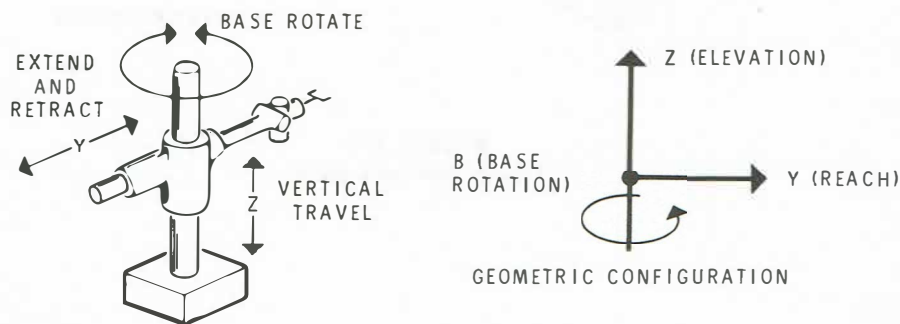

Figure 1-6
**CYLINDRICAL COORDINATE ROBOT** — Essentially, a horizontal manipulator mounted on a vertical column. The vertical column, in turn, is mounted on a rotating base. This is shown in Figure 1-6. The manipulator is free to extend and retract, and is also free to move up and down on the vertical column; both of the members are permitted to rotate on the base. Thus, the work envelope (working area) of the robot forms a portion of a cylinder.